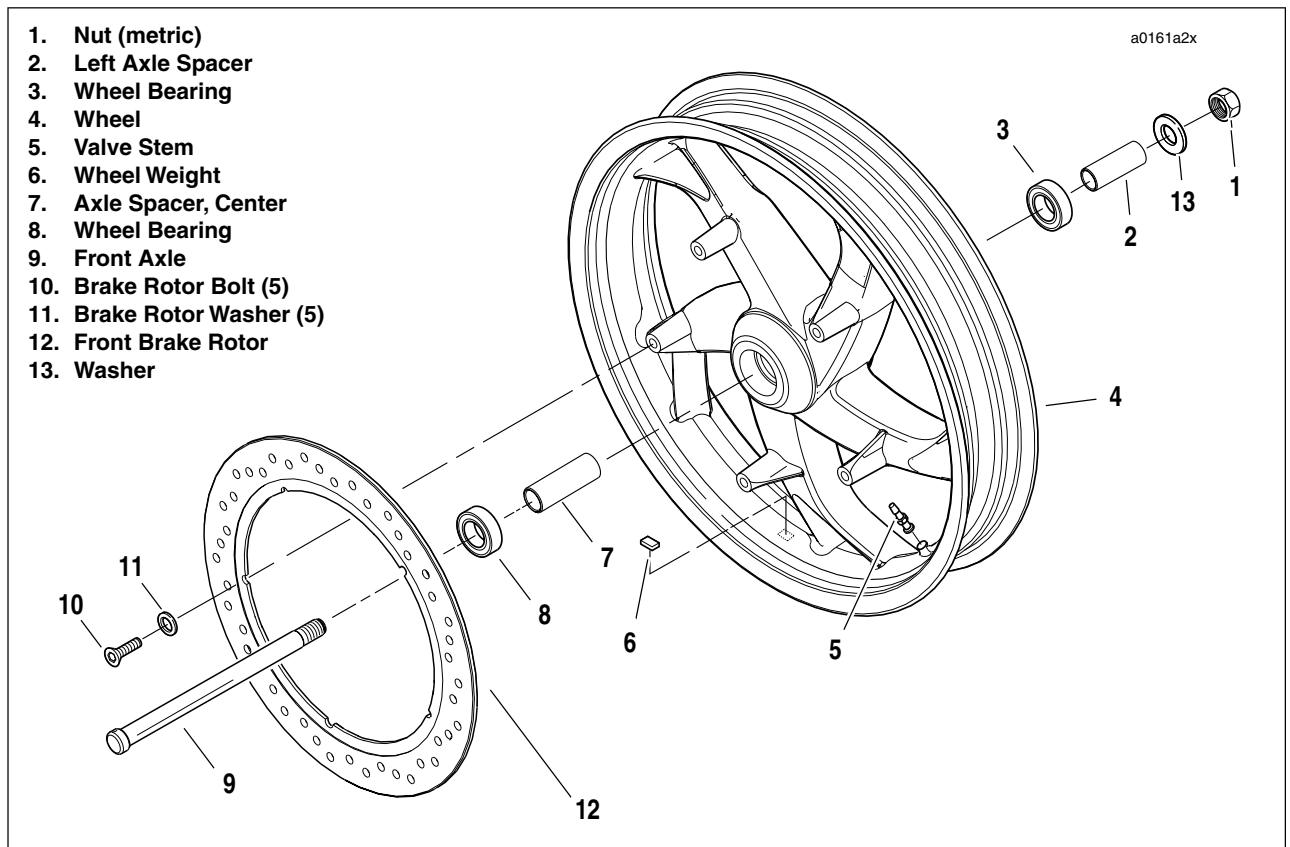

Figure 2-6. Front Wheel Assembly
1. See Figure 2-6. Remove five bolts (10) and washers (11) to detach front brake rotor (12) from wheel hub. Discard washers.
1. See Figure 2-6. Install front brake rotor (12) on right side of wheel.
- b. Apply LOCTITE THREADLOCKER 272 (red) to threads of each of the five T40 TORX screws (10).
- d. Install axle spacer (2) and washer (13).
3. See Figure 2-6. Install axle nut.
- b. Install axle nut (1) (metric) over threaded end of axle.
- d. While holding axle stationary, tighten axle nut (1) (metric) to 38-42 ft-lbs (52-57 Nm).